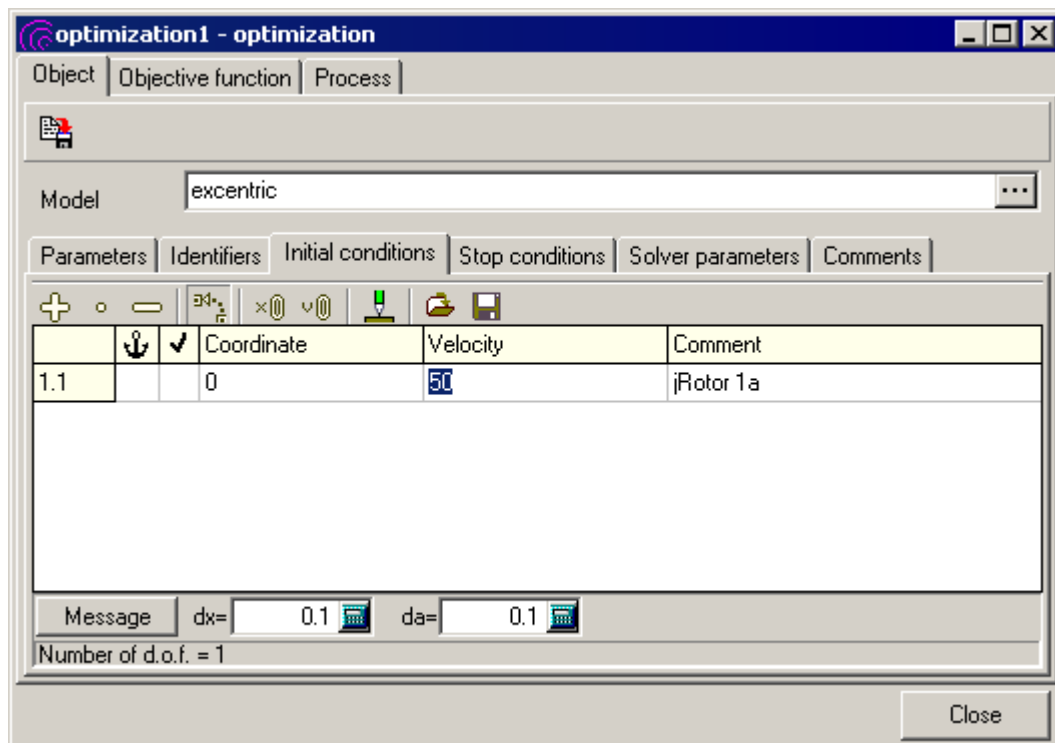

Figure 5.8. Optimization project: initial conditions
1. Select the **Initial conditions** tab. Input **50** as initial velocity of the rotor, see Fig. 5.8.